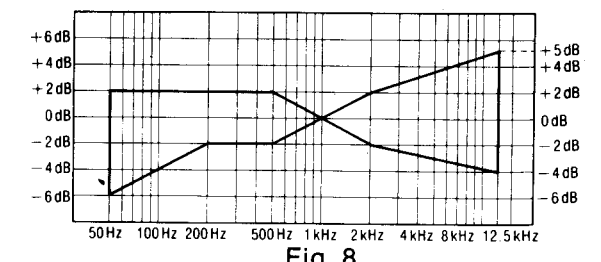

Fig. 8
5. After that increase the signal recorded on Cr2 blank tape (QZZCRX) and metal blank tape (QZZCRZ) up to 12.5kHz and adjust in the same way as mentioned above and check that the frequency level is within the range shown in Fig. 8.